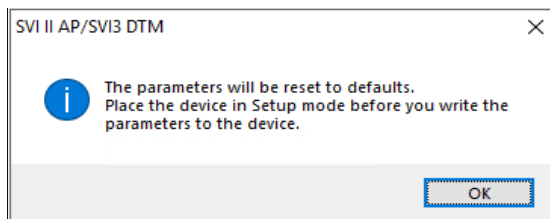

Figure 37 Reset Basic Config and Cal to Defaults Message
2. Click  and Figure 37 appears.